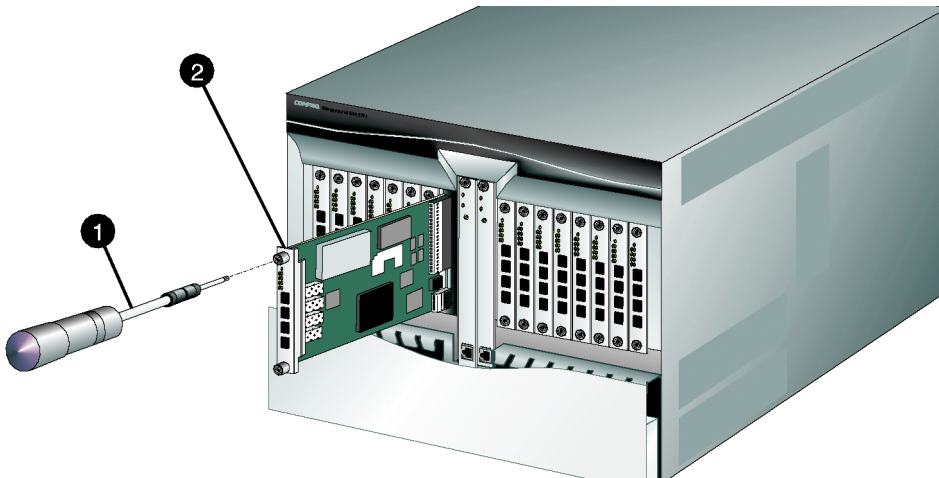

Figure 4-5: FPM Card Removal and Replacement
- b. Insert the torque tool (❶) into the cam Allen screw at the top of the card (❷). To unseat the FPM card and cam it out of the backplane, turn the screw counterclockwise until the tool turns freely (Figure 4-5).
2. Hold the card by its stiffener and insert it in the chassis card track (Figure 4-5). The label identifying the card should be at the top. Verify the card is aligned in the card tracks, then slide it forward until it makes contact with the backplane.